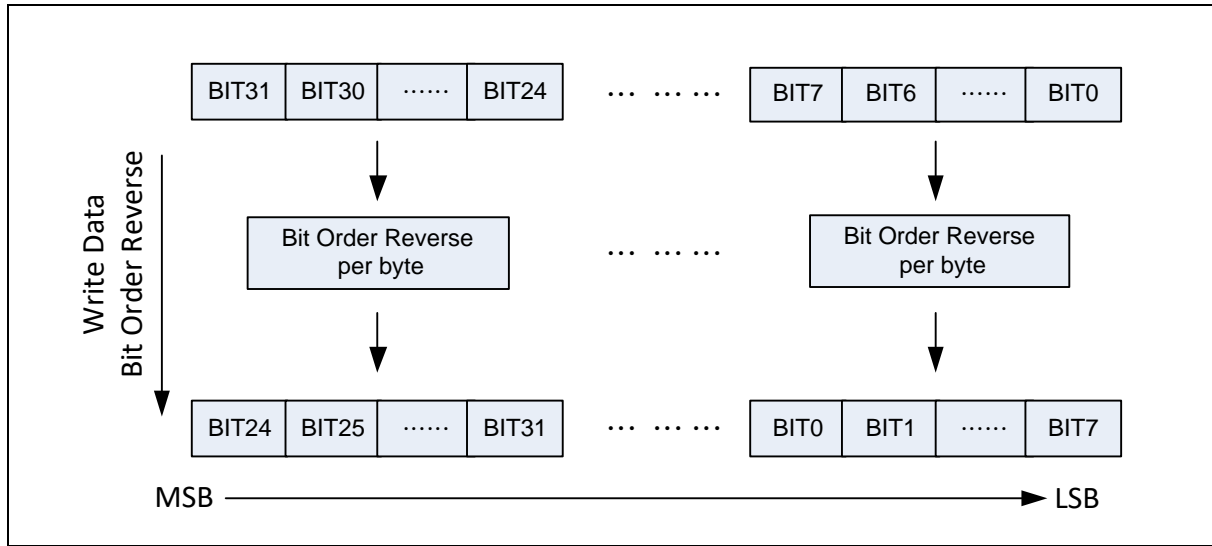

Figure 6.35-3 Write Data Bit Order Reverse Functional Block
- 4) Configure bit order reverse for CRC write data per byte by setting DATREV (CRC_CTL[24] Write Data Bit Order Reverse). The functional block is also shown in Figure 6.35-3.